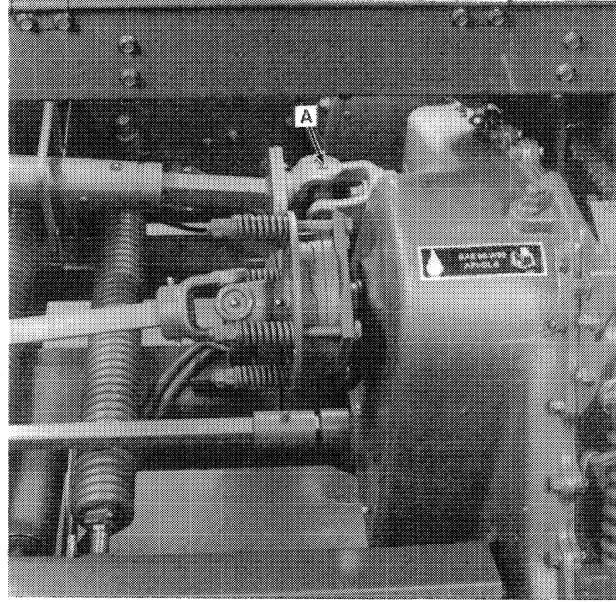
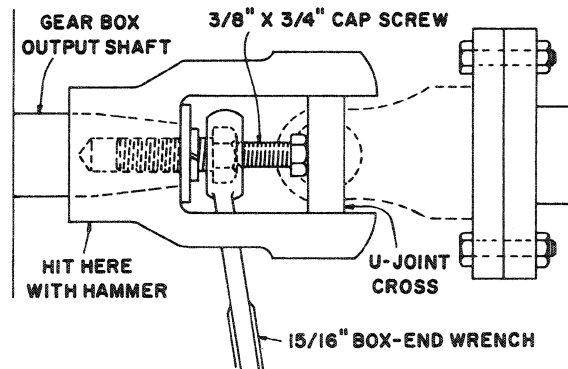

FIGURE 2-24
FIGURE 2-25
7. Shear bolt drive - Remove the U-joint assembly, A, Figure 2-24, from the gearbox output shaft as shown in Figure 2-25.